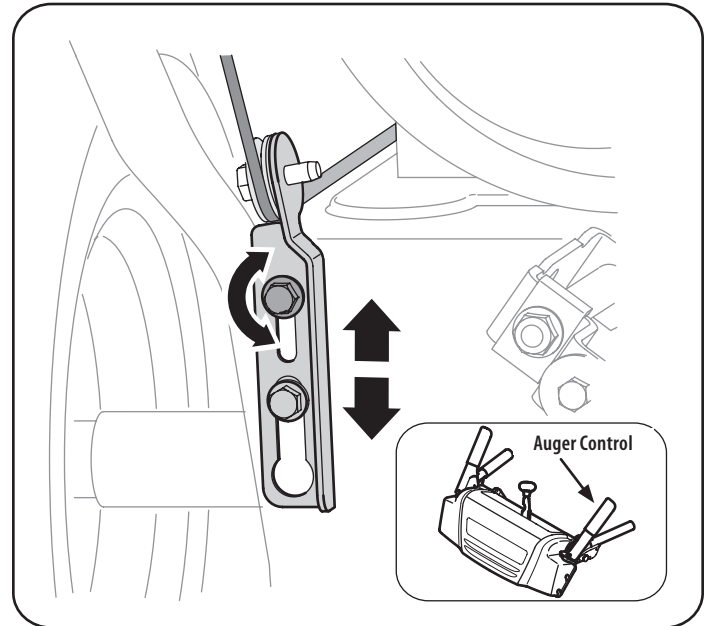

Figure 46
1. The auger control is located on the left handle. See Figure 46 inset. When the auger control is released and in the disengaged "UP" position, the cable should have very little slack. It should NOT be tight.
7. To readjust the control cable, loosen the upper hex bolt on the auger cable bracket. See Figure 46.